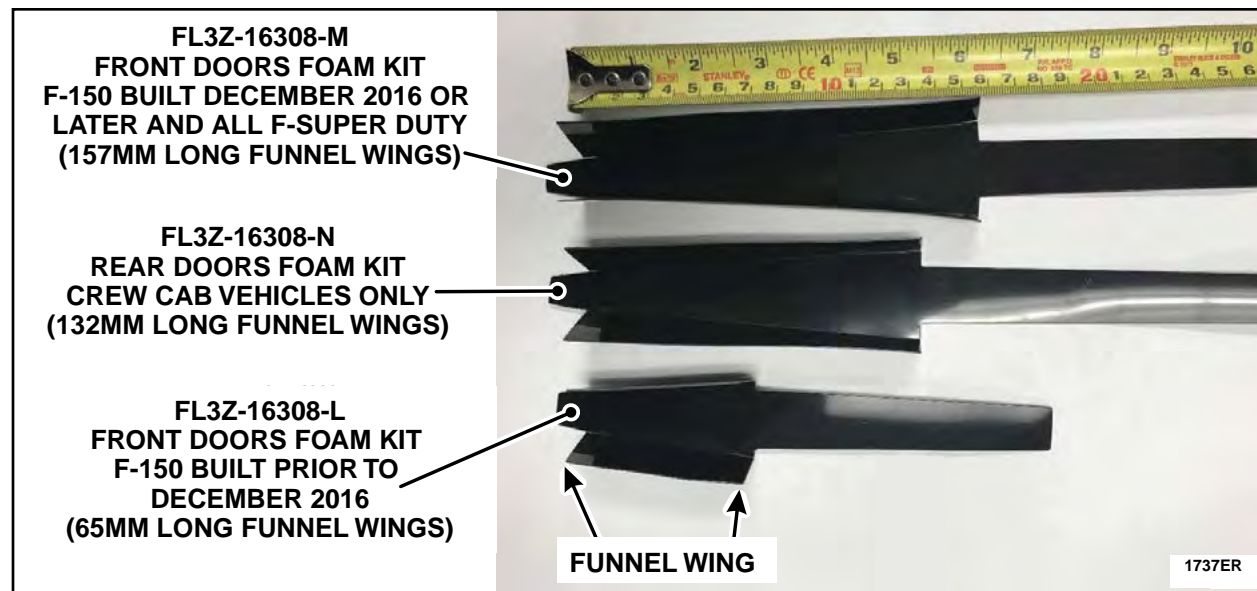

FIGURE 1
1. Verify the correct door glass funnels are being installed by measuring the funnel wings as shown in Figure 1.